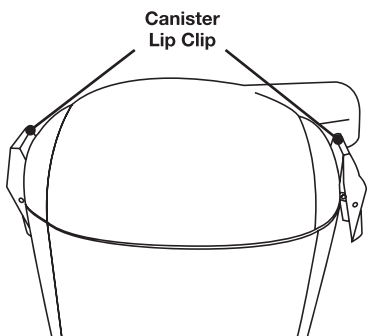

Fig 18
1. To remove the **HEPA** Dust Bag, press on the canister lid tabs on each side of the unit and lift canister lid. (Fig.18)
2. Pull the tab on the **HEPA** Dust Bag holder out slightly and lift upwards. (Fig.18)